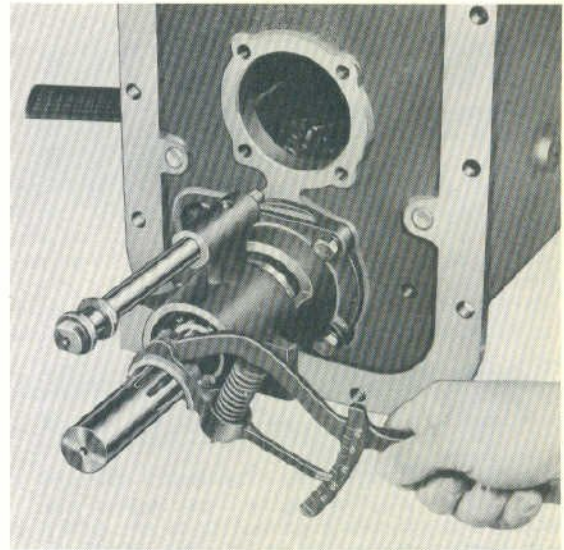

Fig. 16
Step 4—Check the countershaft bearing adjustment as shown in Figure 16. (Stub shaft inserted or the PTO shaft may be used if properly supported.)